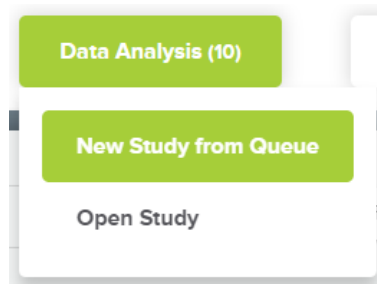

Figure 6: New Study from Queue button
1. From the GeoMx DSP Control Center, hover over the **Data Analysis** button (see Figure 6).
2. **New Study from Queue** and **Open Study** buttons will appear. Select **New Study from Queue**. The number in parentheses on the Data Analysis button indicates the number of scans currently in the Queue. In the example here (see Figure 6), there are 10 scans presently in the queue.